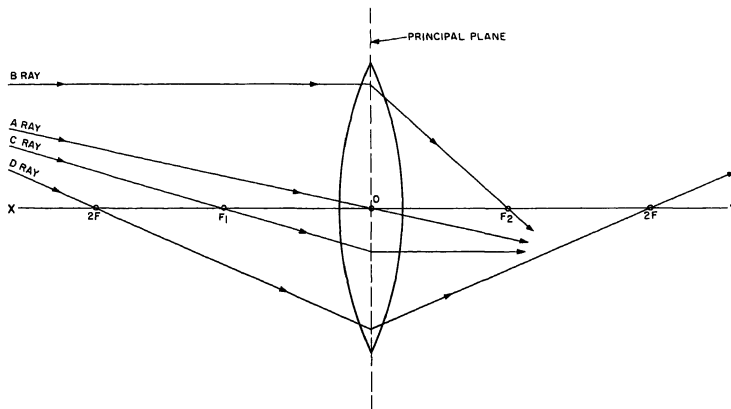

Figure 4-11.—Principal light rays.
Refer to the four principal rays of light in figure 4-11. These rays are used to plot image
**LIGHT RAY A.**—Light ray A is any incident ray that passes through the optical center (O in figure 4-11) of a lens and emerges from the lens without deviation from the path it was following before it entered the lens.